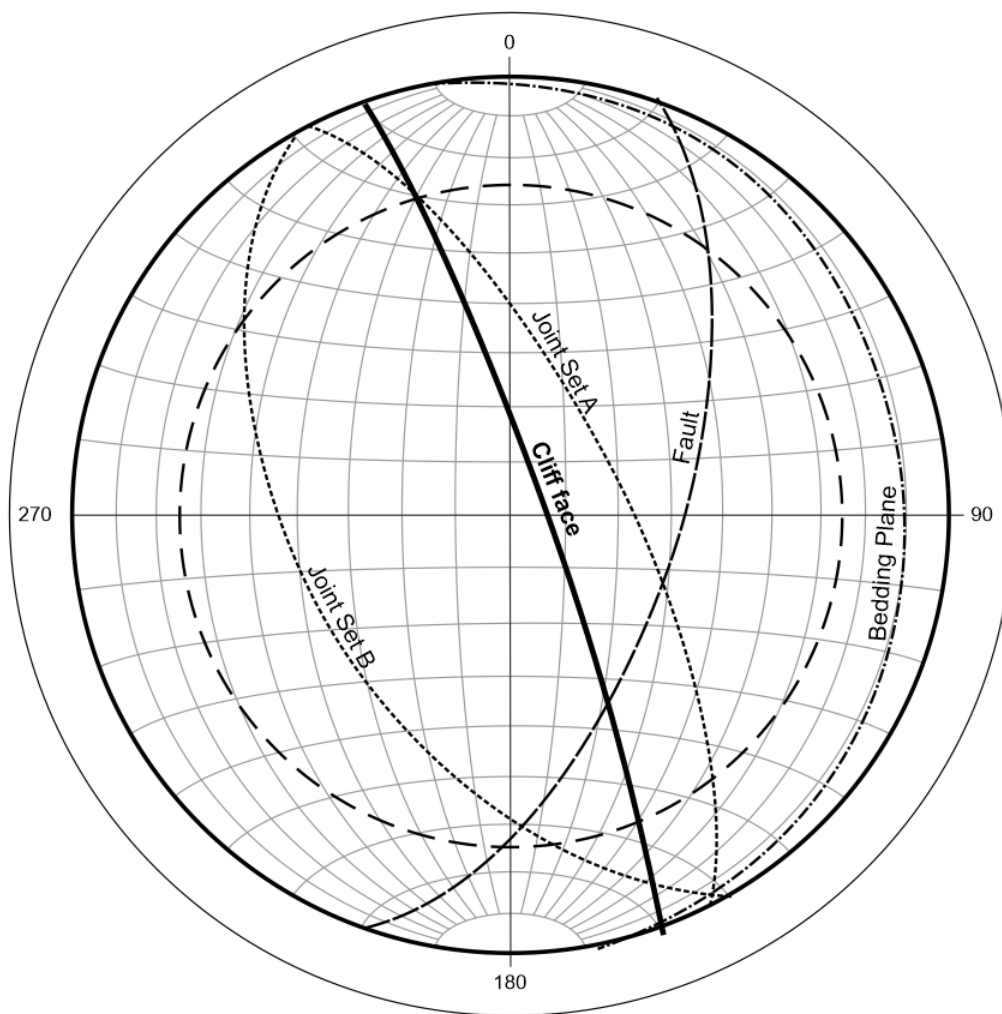

Figure QB4. A stereographic plot representing the coastal cliff face and its discontinuities.
A survey of the rock slope resulted in the stereographic plot of **Figure QB4**. Partial results of the survey are shown in **Table QB4**. Uncertainties in dip and strike measurements are of the order of 5 degrees.
- a) Using the stereographic plot (**Figure QB4**), complete the missing dip and strike and friction angle information in **Table QB4**, Include your answers in your answer book. [6 marks]